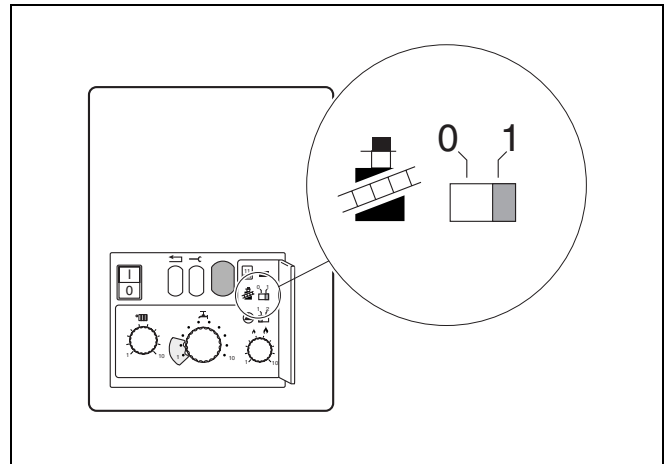

fig. 34 Chimney sweeper switch
- Move the chimney sweeper switch (fig. 34) to position "1".